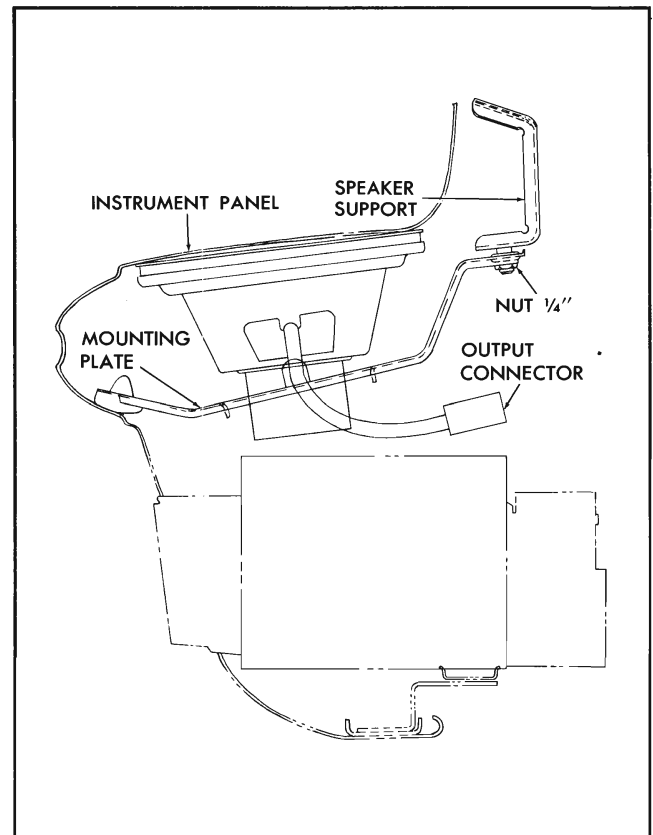

Fig. 12-5 Speaker Installation
2. Remove nuts securing speaker to speaker support (Fig. 12-5).